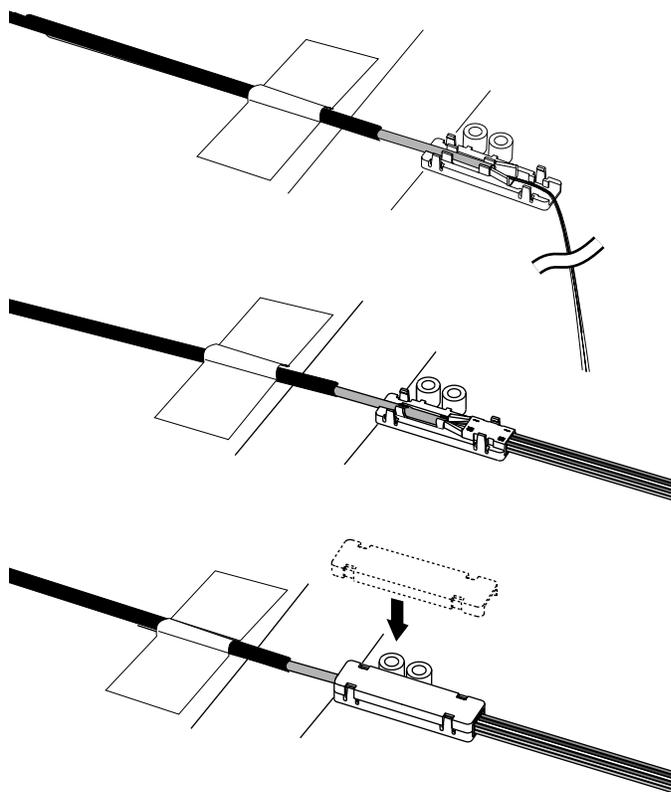

Figure 22
- c) Install the BTF kit following its instructions (Figure 22).